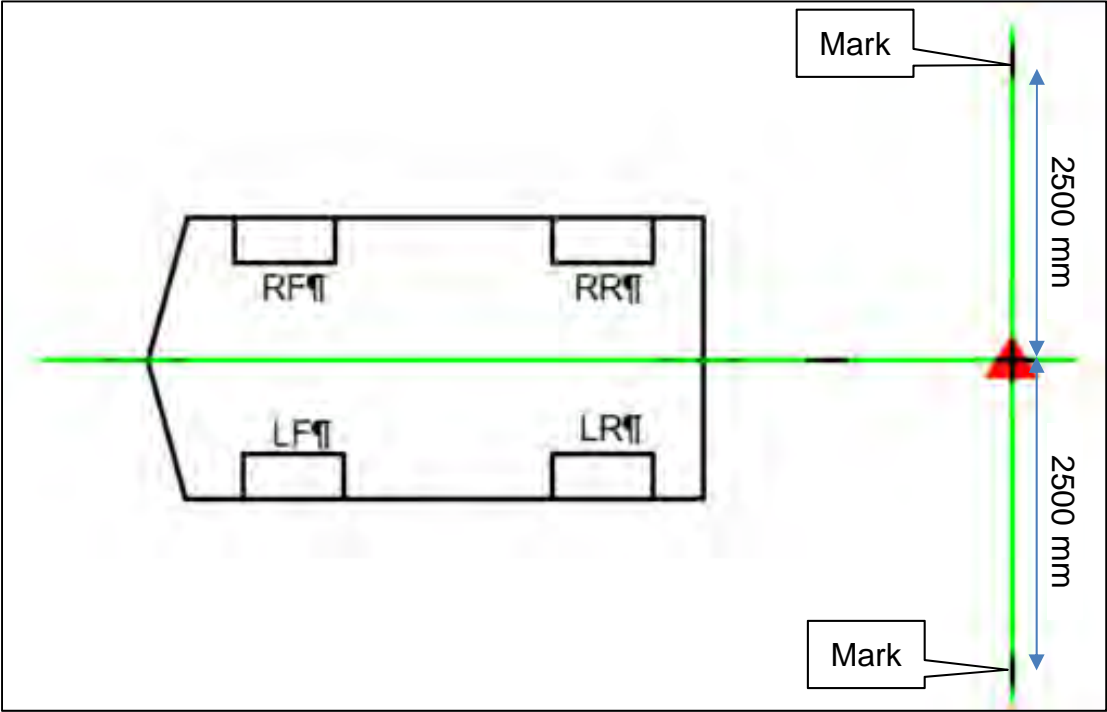

Figure 70
51. Measure and place a mark 2500 mm to the left and to the right of the laser level, as shown in Figure 70.